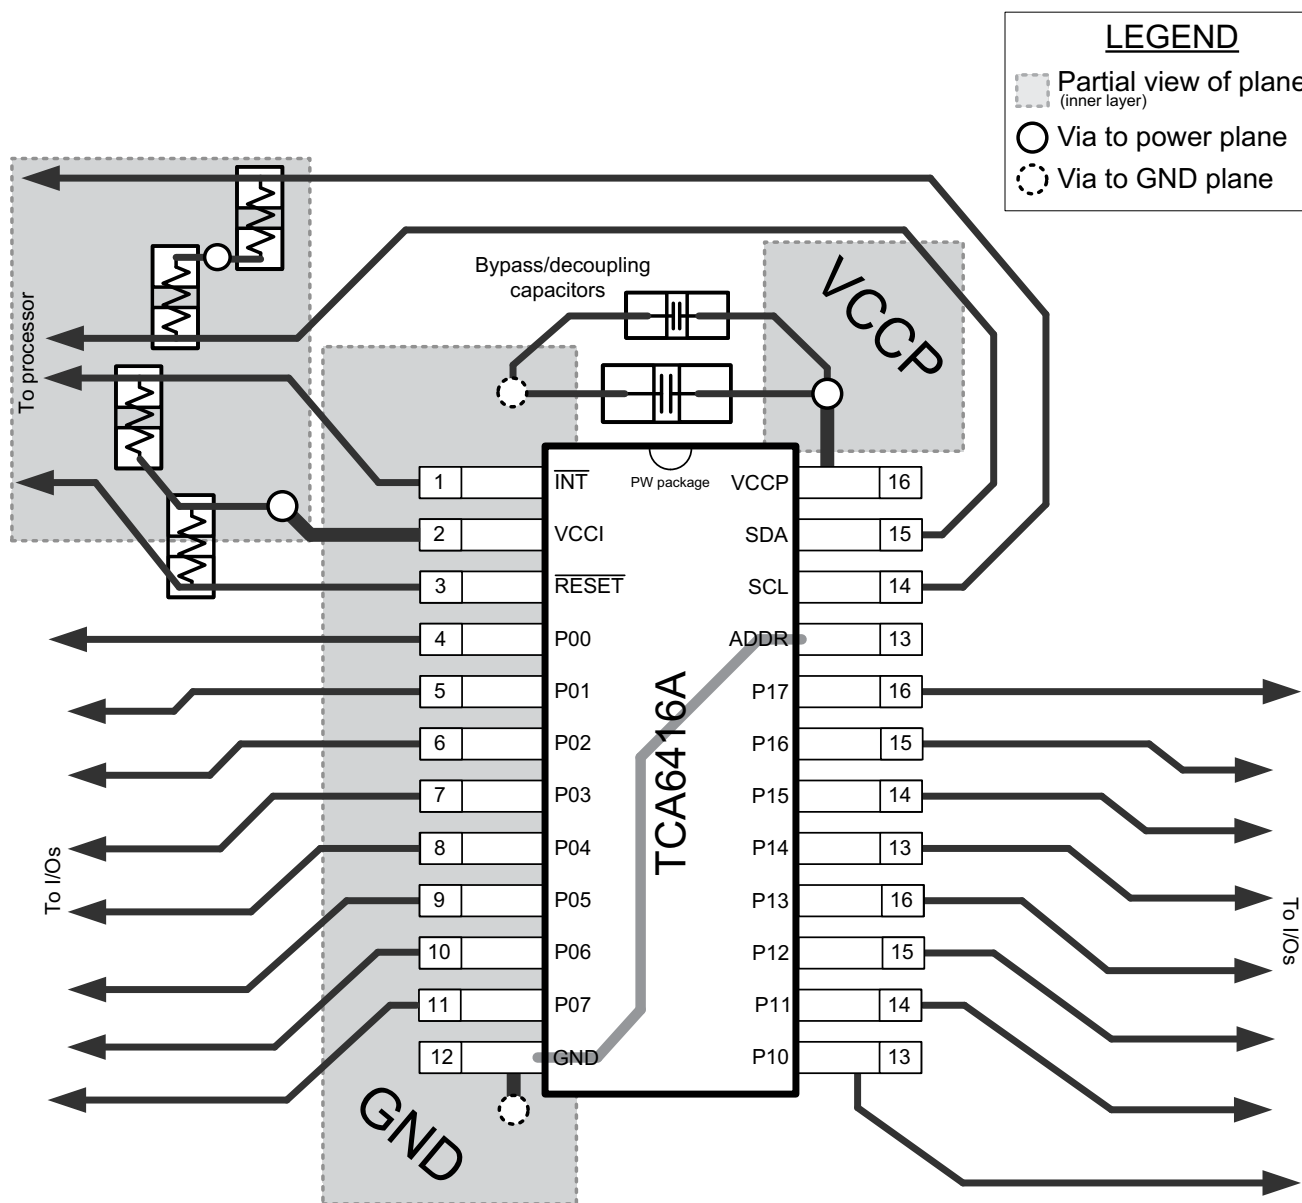

Figure 11-1. TCA6416A Layout
In all PCB layouts, it is a best practice to avoid right angles in signal traces, to fan out signal traces away from each other upon leaving the vicinity of an integrated circuit (IC), and to use thicker trace widths to carry higher amounts of current that commonly pass through power and ground traces. By-pass and de-coupling capacitors are commonly used to control the voltage on the VCCP pin, using a larger capacitor to provide additional power in the event of a short power supply glitch and a smaller capacitor to filter out high-frequency ripple. These capacitors should be placed as close to the TCA6416A as possible. These best practices are shown in Figure 11-1.
For the layout example provided in Figure 11-1, it would be possible to fabricate a PCB with only 2 layers by using the top layer for signal routing and the bottom layer as a split plane for power (V_{CCI} and V_{CCP}) and ground (GND). However, a 4 layer board is preferable for boards with higher density signal routing. On a 4 layer PCB, it is common to route signals on the top and bottom layer, dedicate one internal layer to a ground plane, and dedicate the other internal layer to a power plane. In a board layout using planes or split planes for power and ground, vias are placed directly next to the surface mount component pad which needs to attach to V_{CCI}, V_{CCP}, or GND and the via is connected electrically to the internal layer or the other side of the board. Vias are also used when a signal trace needs to be routed to the opposite side of the board, but this technique is not demonstrated in Figure 11-1.